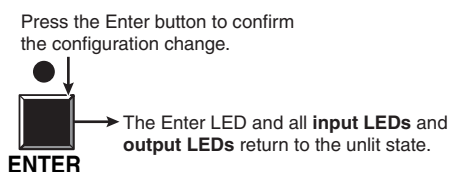

Figure 3-19 — Press the Enter button
- Press and release the Enter button (figure 3-19).